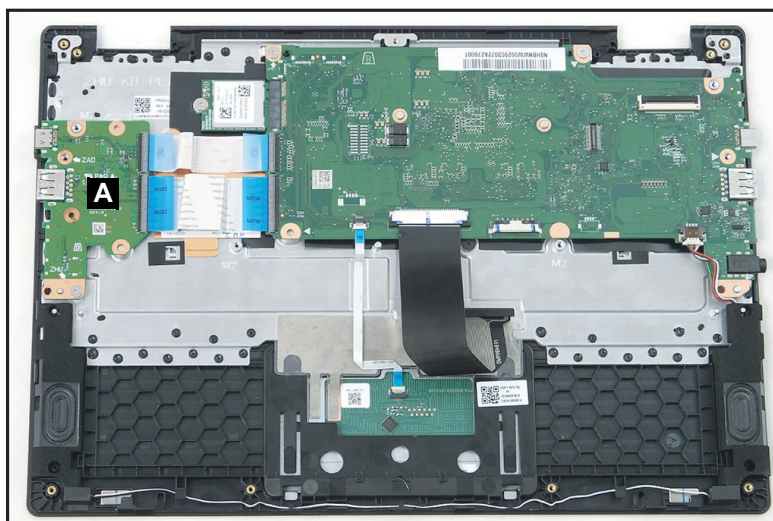

Figure 1-23. USB Board Location
1. Find the USB board (A) on the top assembly (Figure 1-23).